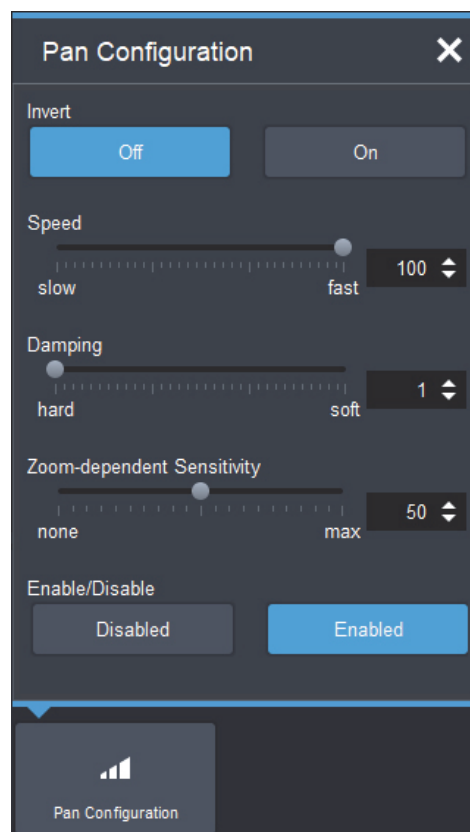

Figure 12 - Axis Configuration dialog box (pan configuration shown)
2. The **Configuration** dialog box for the axis appears (see Figure 12).